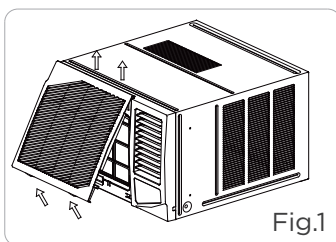

Fig.1
2. Hold the slot under the front panel, then uplift it outwards, and remove the front panel(See Fig. 1)